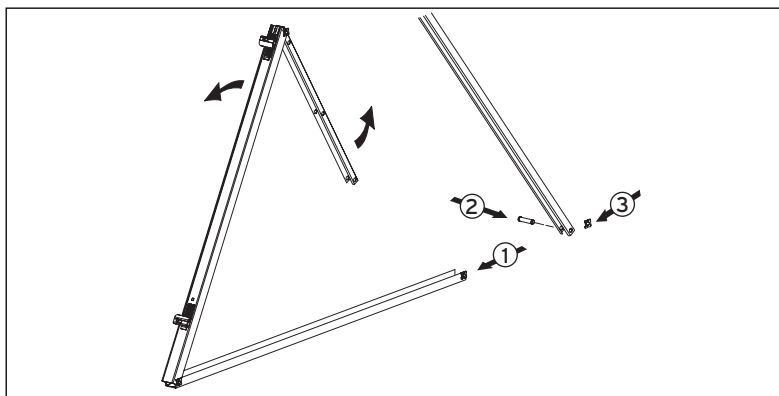

Fig. 5.2 Preparing the frame
- Position another frame (see Fig. 5.2 to 5.4).